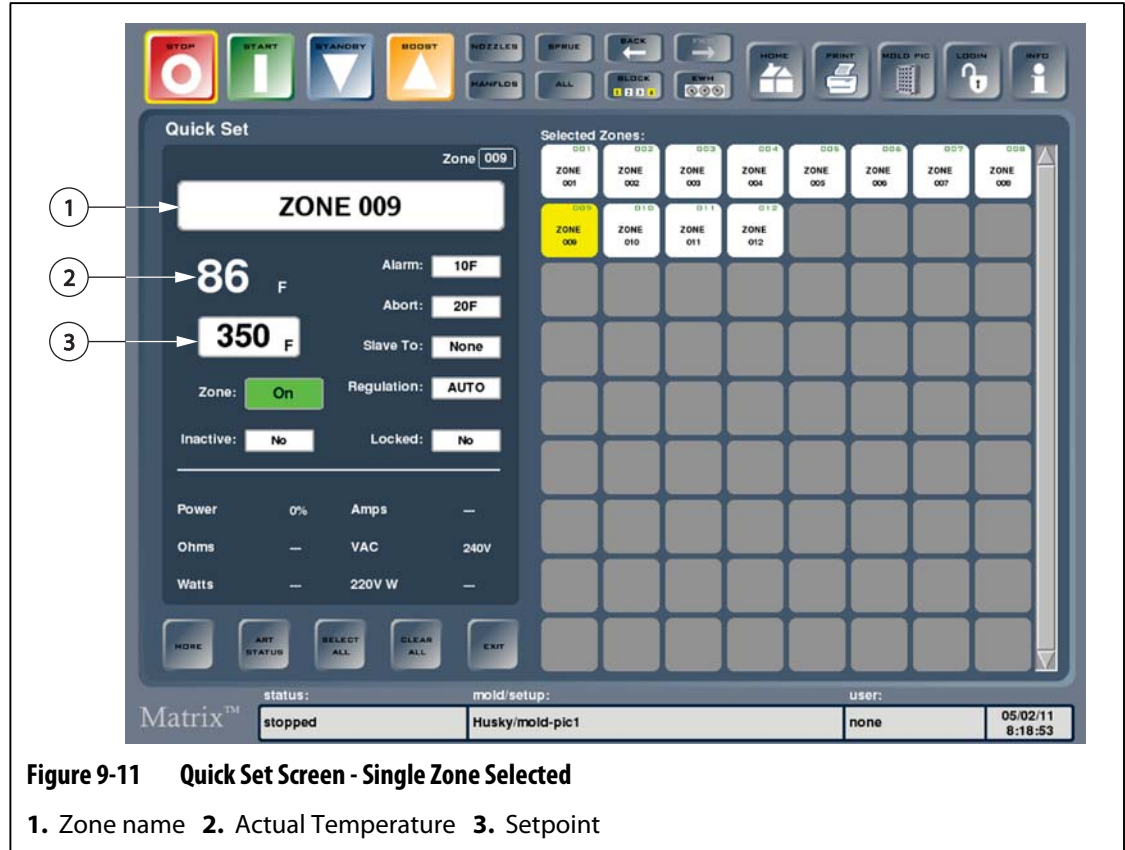

Figure 9-11 Quick Set Screen - Single Zone Selected
Actual Temperature	The actual temperature of the zone is displayed directly below the zone name. Refer to Figure 9-11 , item 2.
Setpoint	The setpoint temperature for the zone is directly beneath the actual temperature. Refer to Figure 9-11 , item 3.